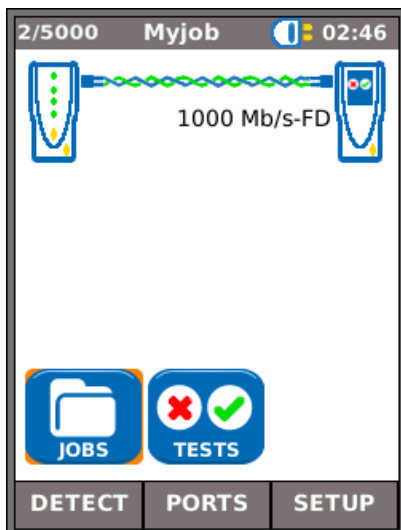

Fig 8
(1) When the Near-End Unit and Remote Unit are directly connected, with copper or fiber cable, press the soft key DETECT (F1) to detect all options available (Fig 8). In addition to wiremap tests (copper), cable performance can be tested and measured. For a full description of these options see *Tests menu description - Ethernet mode, page 25*.